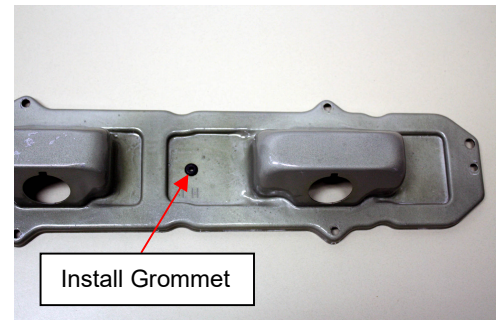

Figure 2
- 3.1. Install the provided rubber grommet into the vent hole in the back housing plates. (See Figure 2)